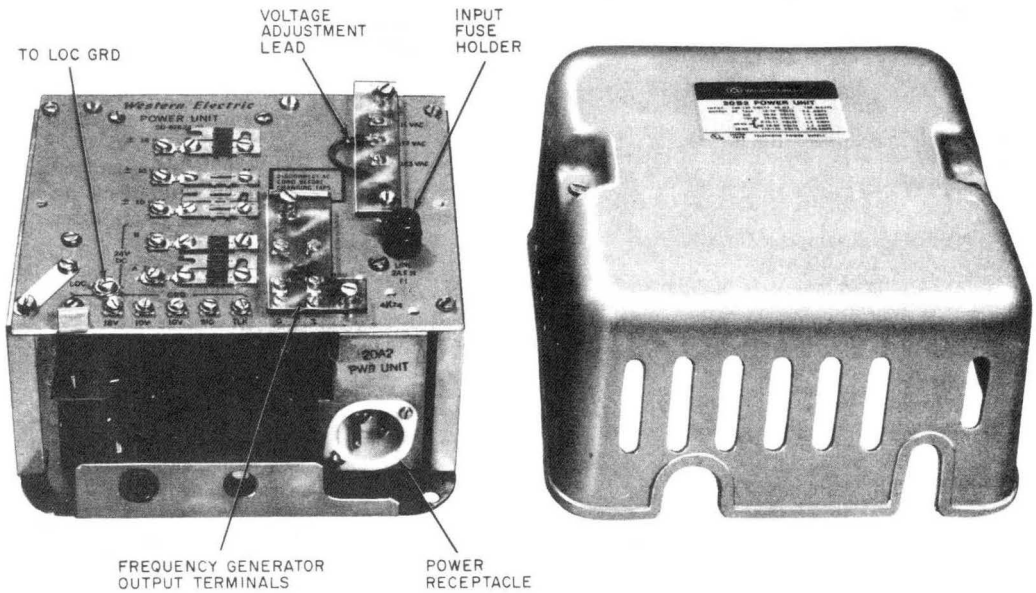
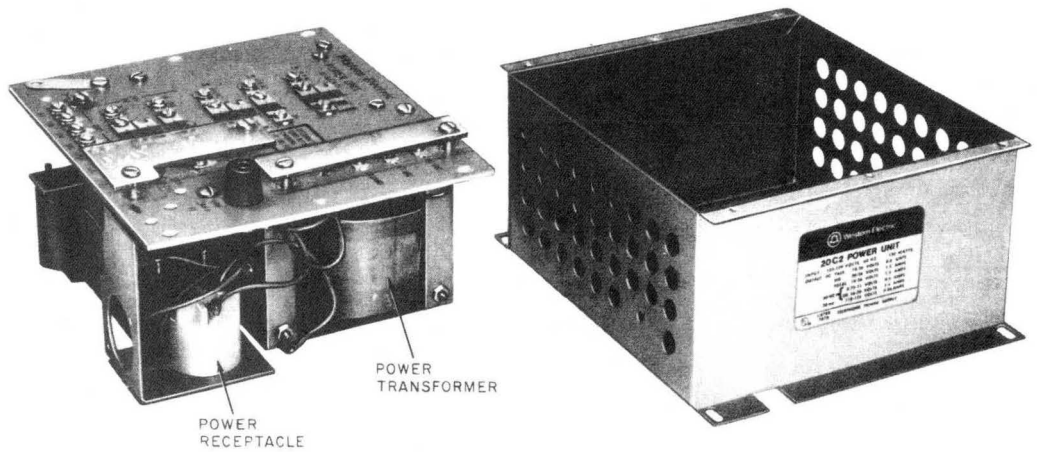

Fig. 3—20B2 Power Unit (Wall Mounted) Cover Removed
Fig. 4—20C2 Power Unit (Rack Mounted) Enclosure Removed to Show Power Receptacle
20C2—20A2 with hardware for mounting in a Key Service Unit or relay rack (see Fig. 4).
- (1) Fasten the backboard plate assembly, P33A830, to the wall as covered in Section 463-130-200, or in accordance with local instructions.
- (2) Hang the power unit on the backboard and secure it with the machine screws provided.
- 3.03** The 20C2 power unit is mounted on an equipment rack using the four mounting holes on the metal enclosure (Fig. 4). Fasten with the machine screws provided.
- 4.03** Place wiring (supplying telephone equipment) through the plastic grommet at the bottom of the 20B2 unit (Fig. 3) and through the slot provided on the mounting flange on the 20C2 unit (see Fig. 4). Dress the wires along the left side of the panel and below the ground terminals.